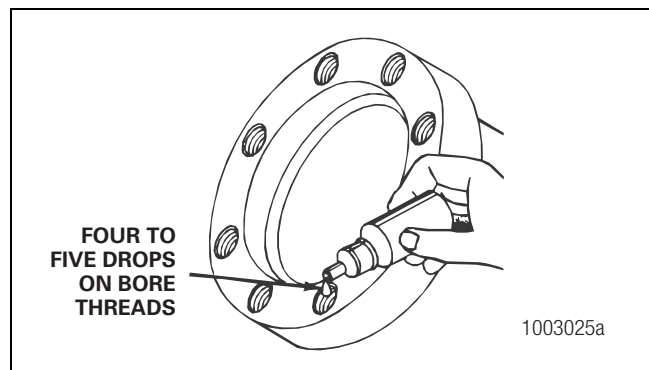

Figure 4.12
2. Apply four or five drops of Meritor liquid adhesive 2297-C-7049, Loctite® 638 or 680 liquid adhesive or equivalent inside each threaded hole or bore. Do not apply adhesive directly to the fastener threads. Figure 4.12.